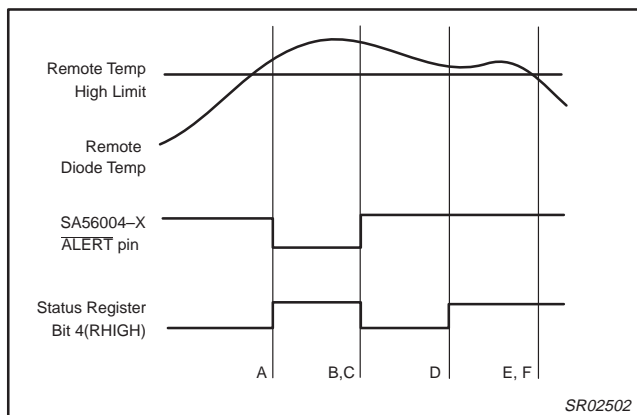

Figure 13. ALERT output in Interrupt Mode
In the interrupt mode, the ALERT output is used to provide an interrupt signal that remains asserted until the interrupt service routine has elapsed. In the interrupt operating mode, a read of the Status register will set the  $\overline{\text{ALERT}}$  mask bit 7 of the Configuration register if any of the temperature alarm bits of the status register is set with exception of BUSY (D7) and OPEN (D2). This protocol prevents further  $\overline{\text{ALERT}}$  output triggering until the master device has reset the  $\overline{\text{ALERT}}$  mask bit at the end of the interrupt service routine. The Status register bits are cleared only upon a read of the status register by the serial bus master (See Figure 13). In order for the  $\overline{\text{ALERT}}$  output to be used as an interrupt, the ALERT Configure bit D0 of the ALERT Mode (AM) register must be set LOW. Note, this is the POR default.